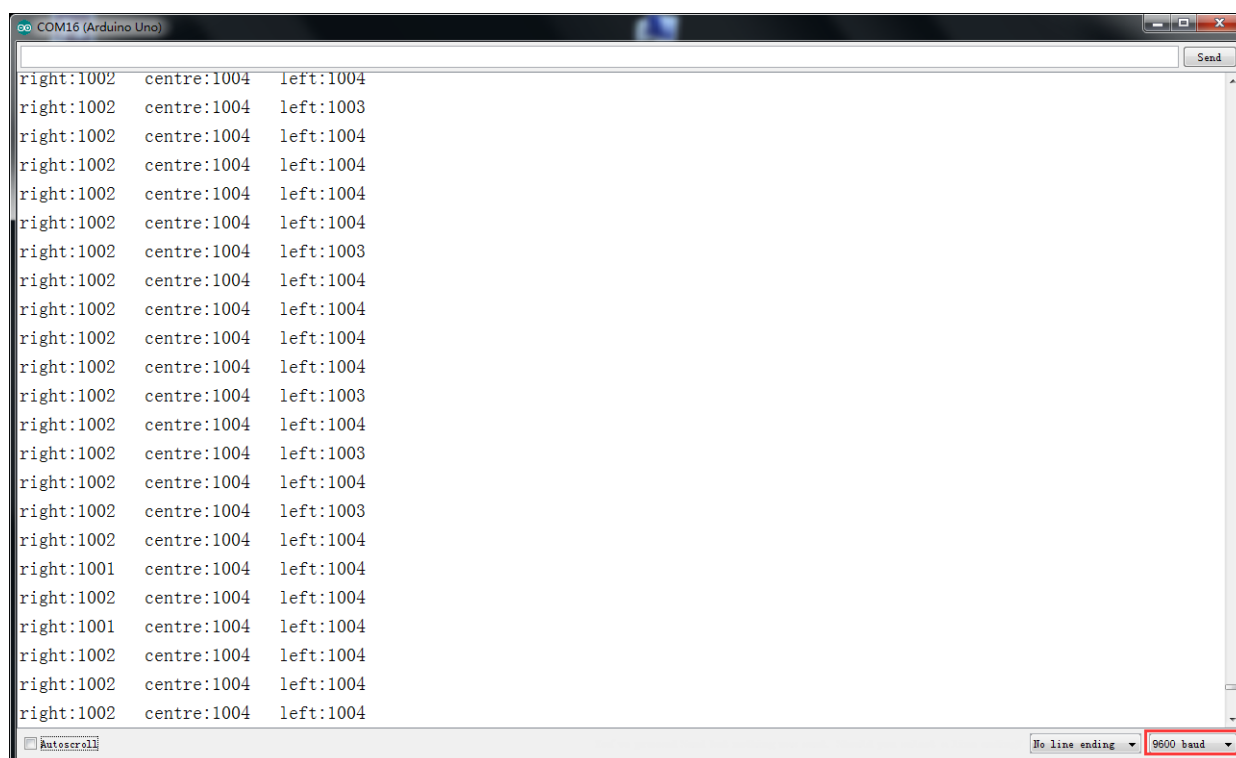
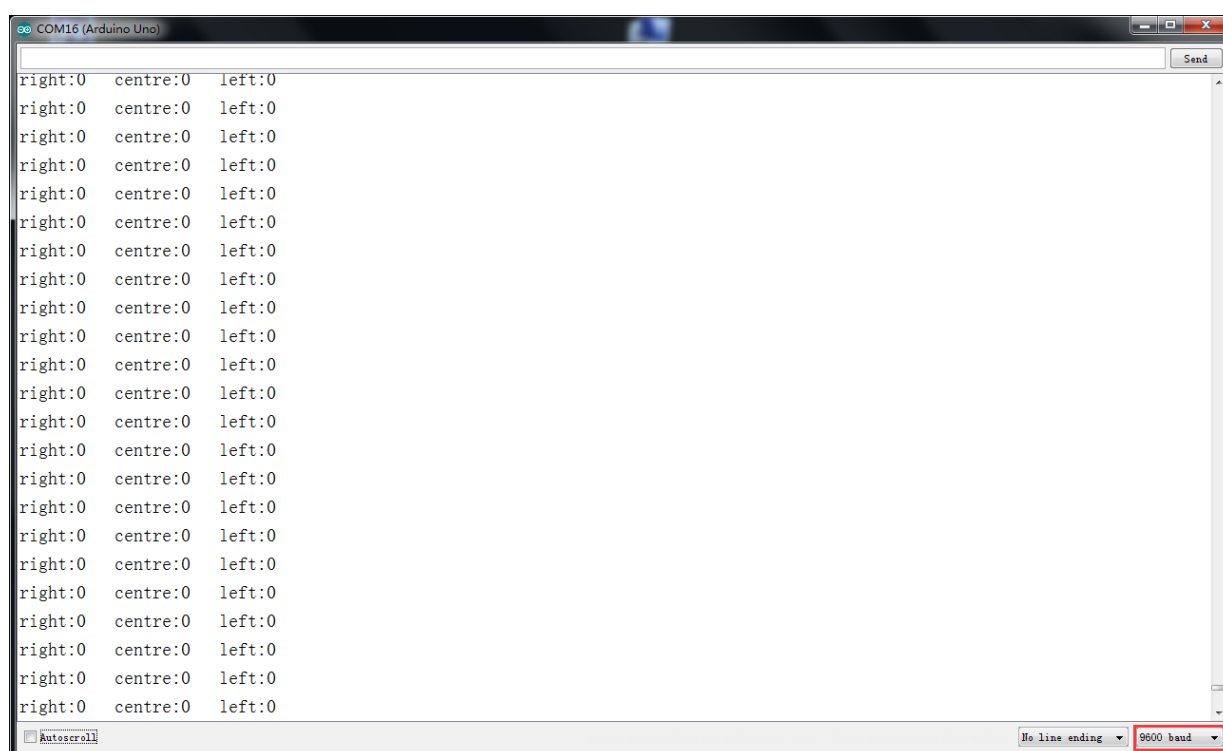

Fig. 3.2.21 The Data When the Sensor Does Not Detect the Black Line
Figure 3.2.22 The Data When the Sensor Detects the Black Line
- 3, Module test. We should copy the following codes to the IDE compiler environment (you can also open the program in the CD directly) and downloading to the development board, and open the serial port monitor (**baud rate is 9600**) to observe the changes of data when there is the white line (Fig. 3.2.21) and is not the white line (Figure 3.2.22).
From Fig.3.2.21 and Fig.3.2.22 we can see that the output is high level when the sensor does not detect the black line, low level when detects the black line. We use the analog port to collect the sensor's signal, so the printed value is analog that, the high level is reaching 1024, the low level is 0.